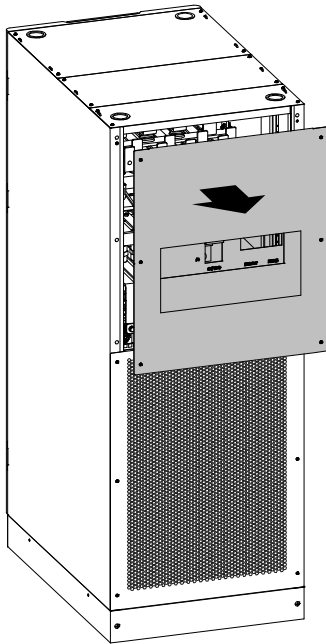

Figure3-22 Remove the back top wiring cover plate
Step 1 Remove the back top wiring cover plate, as shown in Figure3-22.